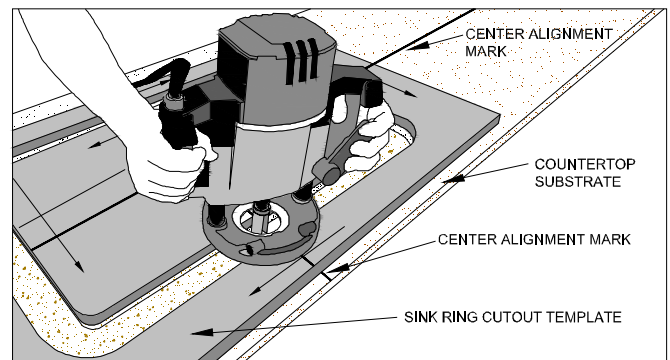

Figure 27A
- Gradually remove all substrate between the two part template. (FIG. 27A)